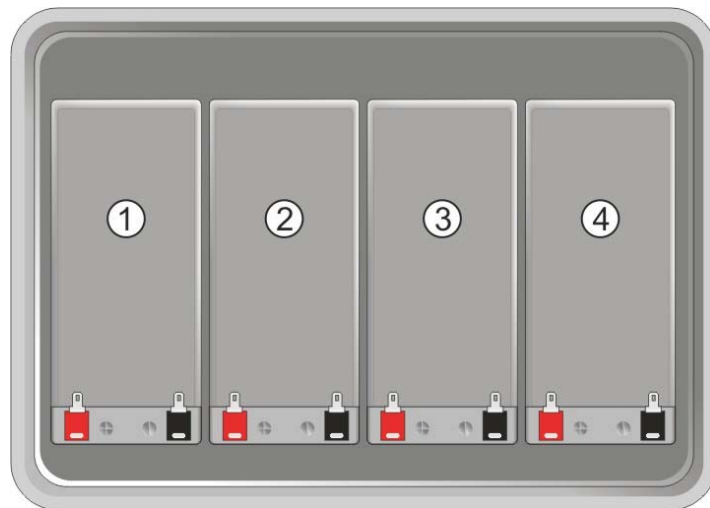

Figure 6-6:
2. Designate each of the batteries with a number identification (i.e., battery1, Battery 2, etc.), as illustrated in Figure 6-6.